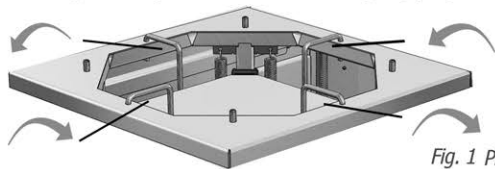
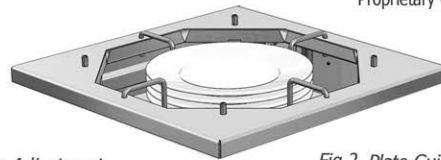

Fig. 1 Plate Guide Adjustment
Fig.2 Plate Guide Testing
C) Setting Dispenser Plate Guides To Suit Plate Diameter. If the dispenser is a heated model, ensure the unit is electrically isolated & remove the polycarbonate lid (if fitted). Lift up each of the plate guides & turn them outwards or inwards to allow the particular plate diameter to fit inbetween them (Fig. 1). The plates can be between between 8"-12" (205mm-305mm) diameter. Test the plate guides are adjusted to suit the required plate diameter by placing a few inside the top of the dispenser (Fig. 2). The diameter is now set.